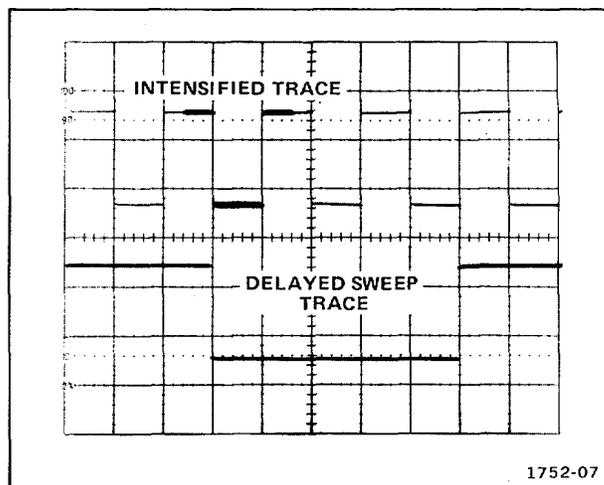

Figure 2-6. Typical alternate sweep display.
**ALTERNATE SWEEP DISPLAY.** To select the Alternate display mode, pull out the DLY'D Time/Division knob and rotate it to a desired sweep rate faster than the TIME/DIV OR DLY TIME switch setting. In this mode, both an intensified sweep and a delayed sweep are displayed (see figure 2-6).